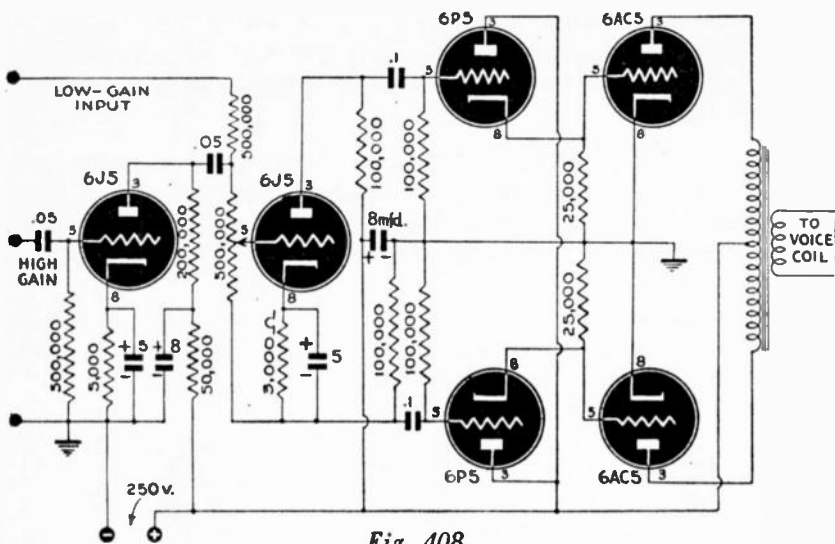

Fig. 408
A. The schematic (Fig. 408) should give good results. The first tube may prove unnecessary, unless you intend to use the amplifier with a low-gain microphone.